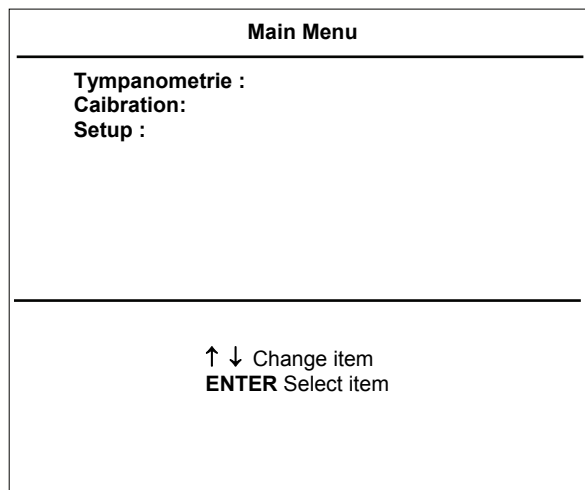
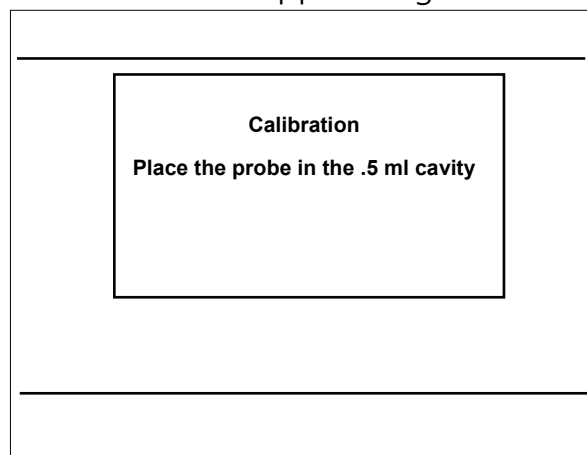

Figure 6
Figure 7 Display MI 44 Calibration
Press the menu key ⑧ and the main menu (figure 6) appears on the LCD display ⑤. Select the menu option Calibration with the Down button ⑩. Press Enter ⑬ and follow the instructions on the LCD display ⑤, as shown in Figure 7.